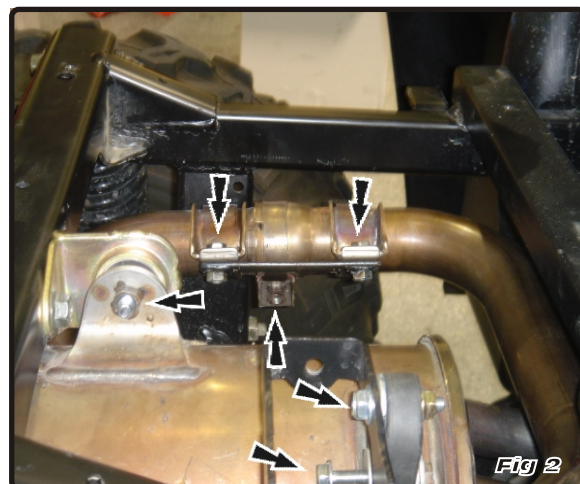

Fig 2
7. Reinstall heatshield (as shown in Fig. 2).